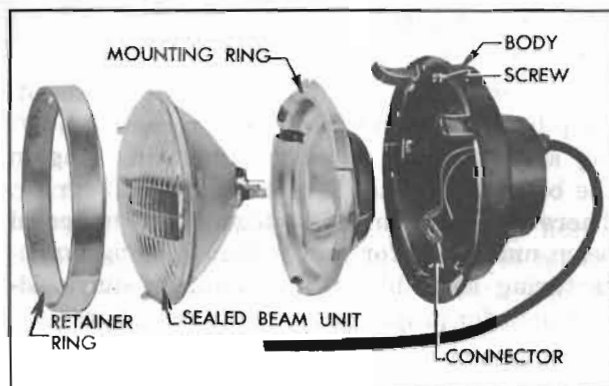

Figure 10-54—Headlamp Disassembled
The headlamp assembly on each front fender consists of a body, wiring, connector, mounting ring, sealed beam unit, retainer ring, door and gasket. See figure 10-54.
4. Spring the retainer ring slightly where marked "TOP" to remove mounting ring and sealed beam unit. See figure 10-54.